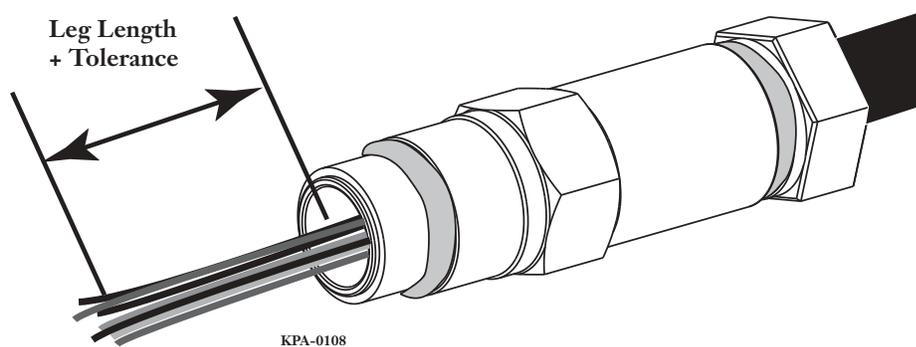

Figure 12
- Step 12** Measure from the front of the adapter sleeve (Figure 12) and trim the fanout legs to the required finished leg length (leg length + applicable tolerance).